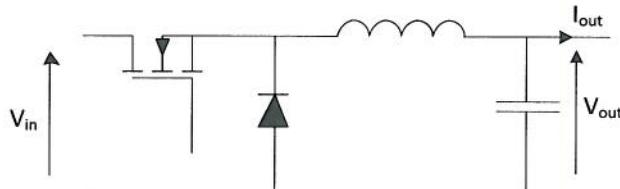

Figure Q1.1 Buck converter
1. This question concerns the buck SMPS shown in Figure Q1.1. Selected component information is listed below. The supply must be able to output 5 A at 3 V from a 20 V input and is designed to operate in continuous conduction mode.